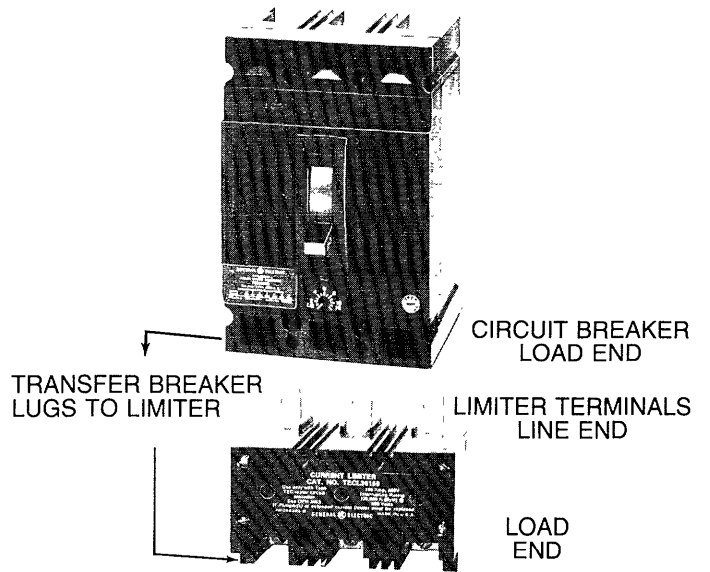

Figure 1
1. Remove load end lugs from breaker and attach them to the load end of the limiter, Figure 1.
2. Attach the limiter line end terminals to the load terminal straps of the breaker, use the (3) 1/4-28 screws provided. Tighten to 30-35 in. lbs. of torque.
3. Secure the limiter to the breaker mounting plate, using the (2) 8-32 screws provided.
2. Remove load end lugs from breaker and attach them to the load end of the limiter, Figure 1.
3. Attach the limiter line end terminals to the load terminal straps of the breaker, use the (3) 1/4-28 screws provided. Tighten to 30-35 in. lbs. of torque.